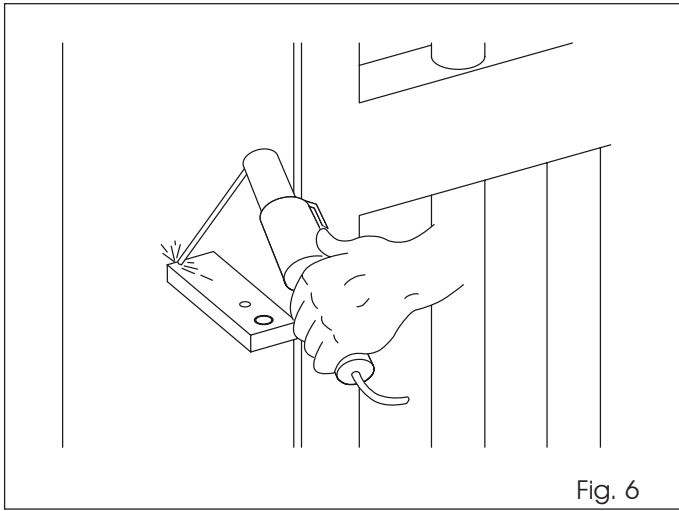

Fig. 6
- For steel pillars, carefully weld the bracket directly onto the pillar (Fig. 6).